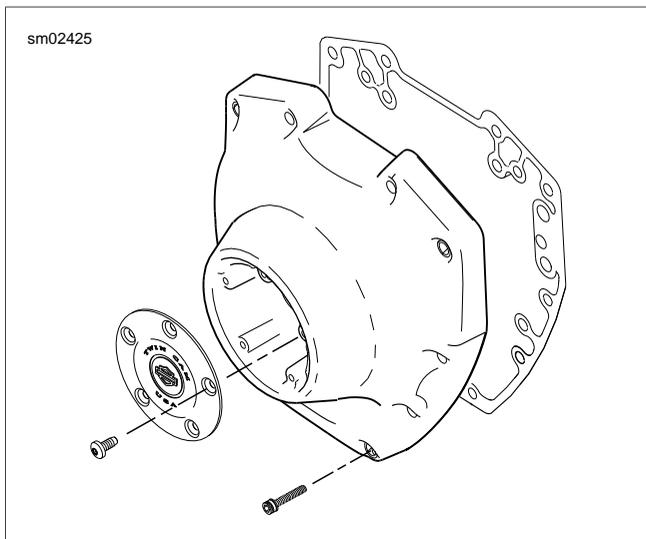

Figure 3-66. Cam Cover Gasket
- c. Final tighten the rear cam sprocket bolt (1) to 34 ft-lbs (46.1 Nm).
- d. Final tighten the crank sprocket bolt (3) to 24 ft-lbs (32.5 Nm).
16. See Figure 3-66. Align holes in **new** cam cover gasket with those in the crankcase flange.